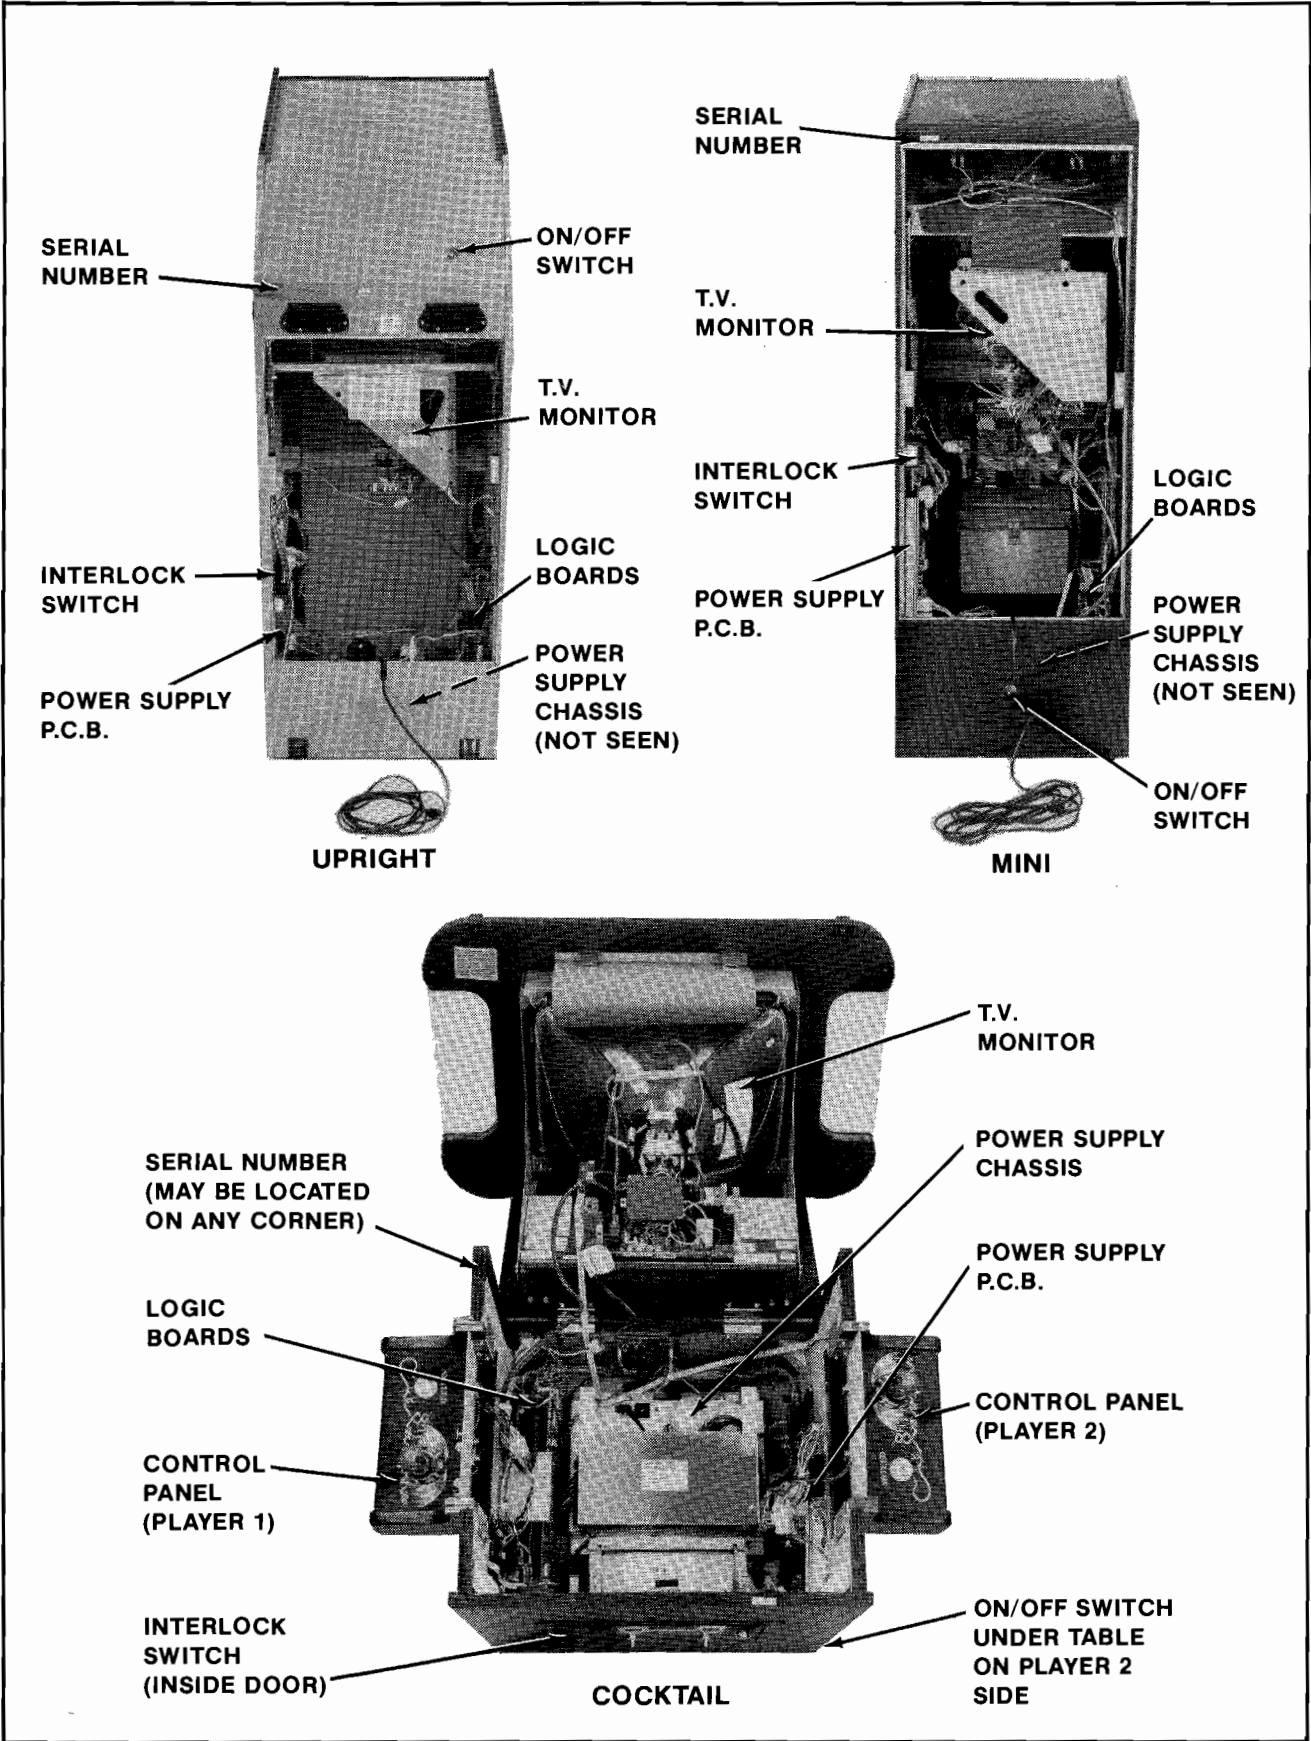

Figure 1-1 Location of Serial No., Interlock Switch, On/Off Switch, & Major Sub-Assemblies
5. Open the cabinet and inspect the inside of the game for any signs of damage. See Figure 1-1.
- Make sure all printed circuit boards (P.C.B.'s) are firmly seated in their connectors. See Figure 1-1. These connectors are also keyed. The P.C.B.'s will only go into them one way without being damaged.
- Note the location of the game's serial number. See Figure 1-1.
- Check all major subassemblies to be sure they are mounted securely. These are called out in Figures 1-1 & 1-2.
## 3. Interlock and power ON/OFF switches. See Figure 1-1.
The game ON/OFF switches for all models are located as shown in Figure 1-1. Turn the game on and allow it to warm up a few minutes.